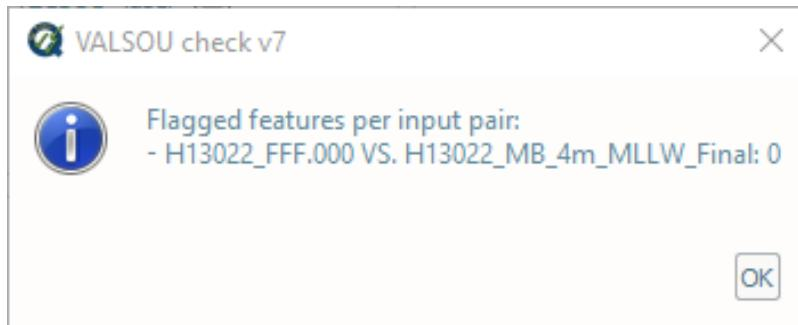

Fig. 2.49: The output message at the end of **VALSOU check v7** execution.
- After computing, the output window opens automatically, and the results are shown (Fig. 2.49). Note, the check considers all combination of grids and features files loaded. If there is no overlap found between a grid and feature file, no output is generated, and the summary will report “no overlap”.